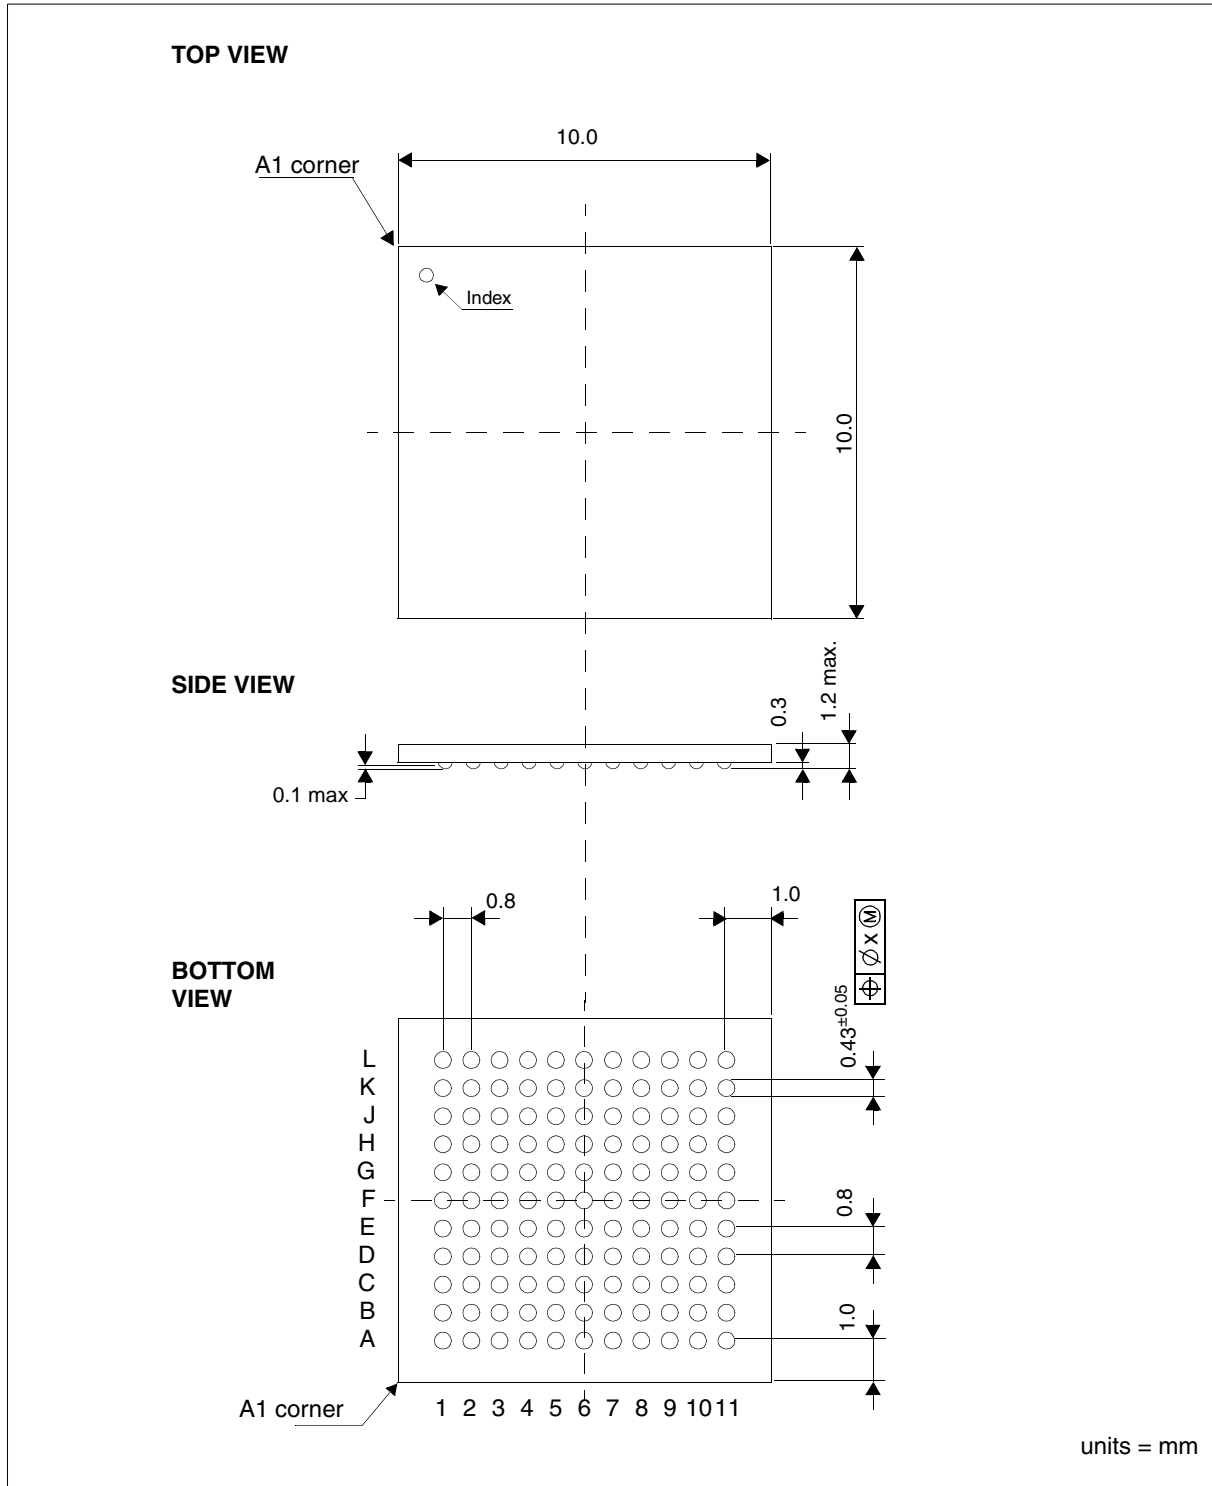

Figure 17-1: SID13748B PFBGA 121-pin Package
- section 17 Mechanical Data - in figure 17-1, *S1D13748B PFBGA 121-Pin Package*, change S1D13748B00 to S1D13748B